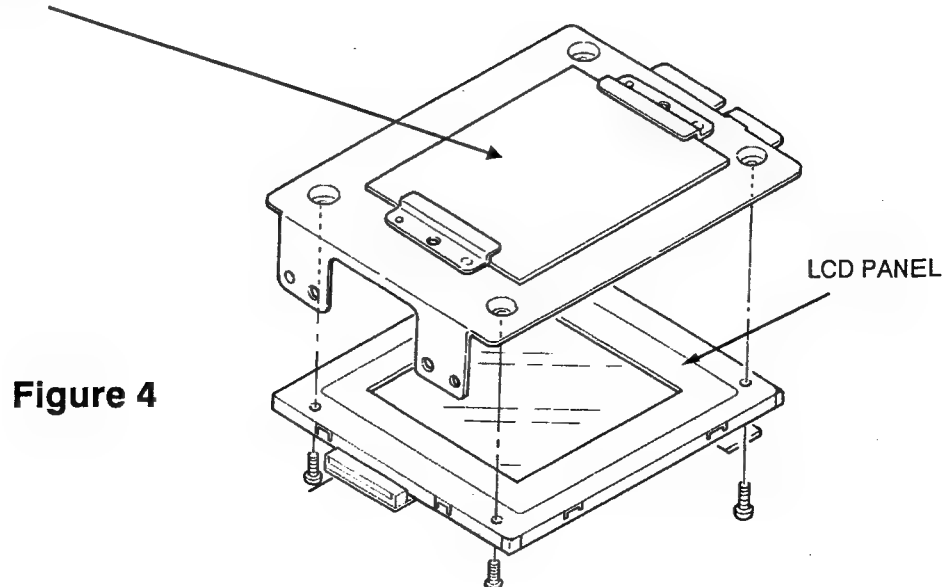

**Figure 2**
3. Remove the two screws from the panel to be replaced on the opposite side of the set as that shown in Fig.1. (Refer to Fig.2 and Fig.3)